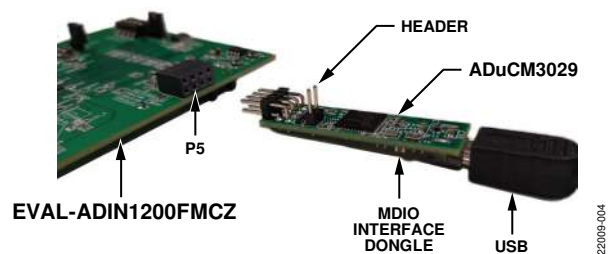

Figure 4. MDIO Interface Dongle Connection to the USB Cable and EVAL-ADIN1200FMCZ
The MDIO interface dongle is a separate board included in the EVAL-ADIN1200FMCZ evaluation kit. The MDIO interface dongle has an on-board ADuCM3029 microcontroller and an FTDI Chip FT232RQ universal asynchronous receive transmitter (UART) to USB interface. The schematic for the MDIO interface dongle is shown in Figure 41. When using the MDIO interface dongle, connect the USB cable to the MDIO interface dongle first, then connect the MDIO interface dongle to the EVAL-ADIN1200FMCZ with the ADuCM3029 facing up (see Figure 4).
- Ensure that the **ADuCM3029** microcontroller faces up (see Figure 4) and connect the MDIO interface dongle to the EVAL-ADIN1200FMCZ. The MDIO interface dongle is not keyed.